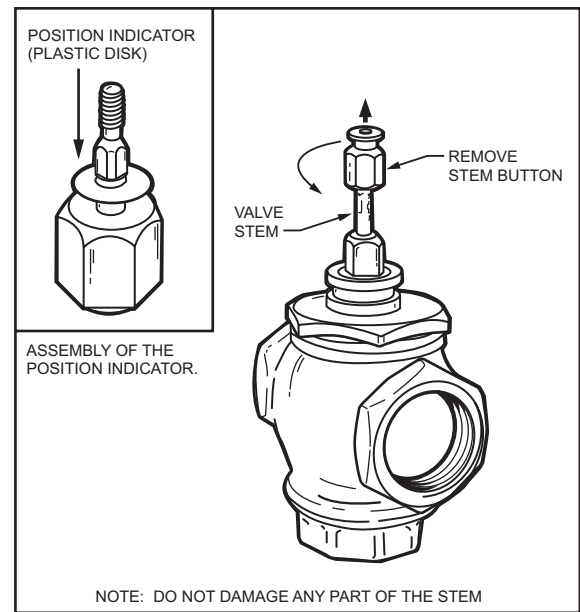

Fig 3. Preparation for valve assembly.
3. Remove the stem button (Fig 3) from the valve stem. Save the set screw inside the stem button for later installation. The button itself is not needed.
4. Slide the position indicator (plastic disk or rubber O-ring) over the valve stem. (See inset, Fig 3) Indicator will selfalign to the marking on the yoke after one complete operating cycle.